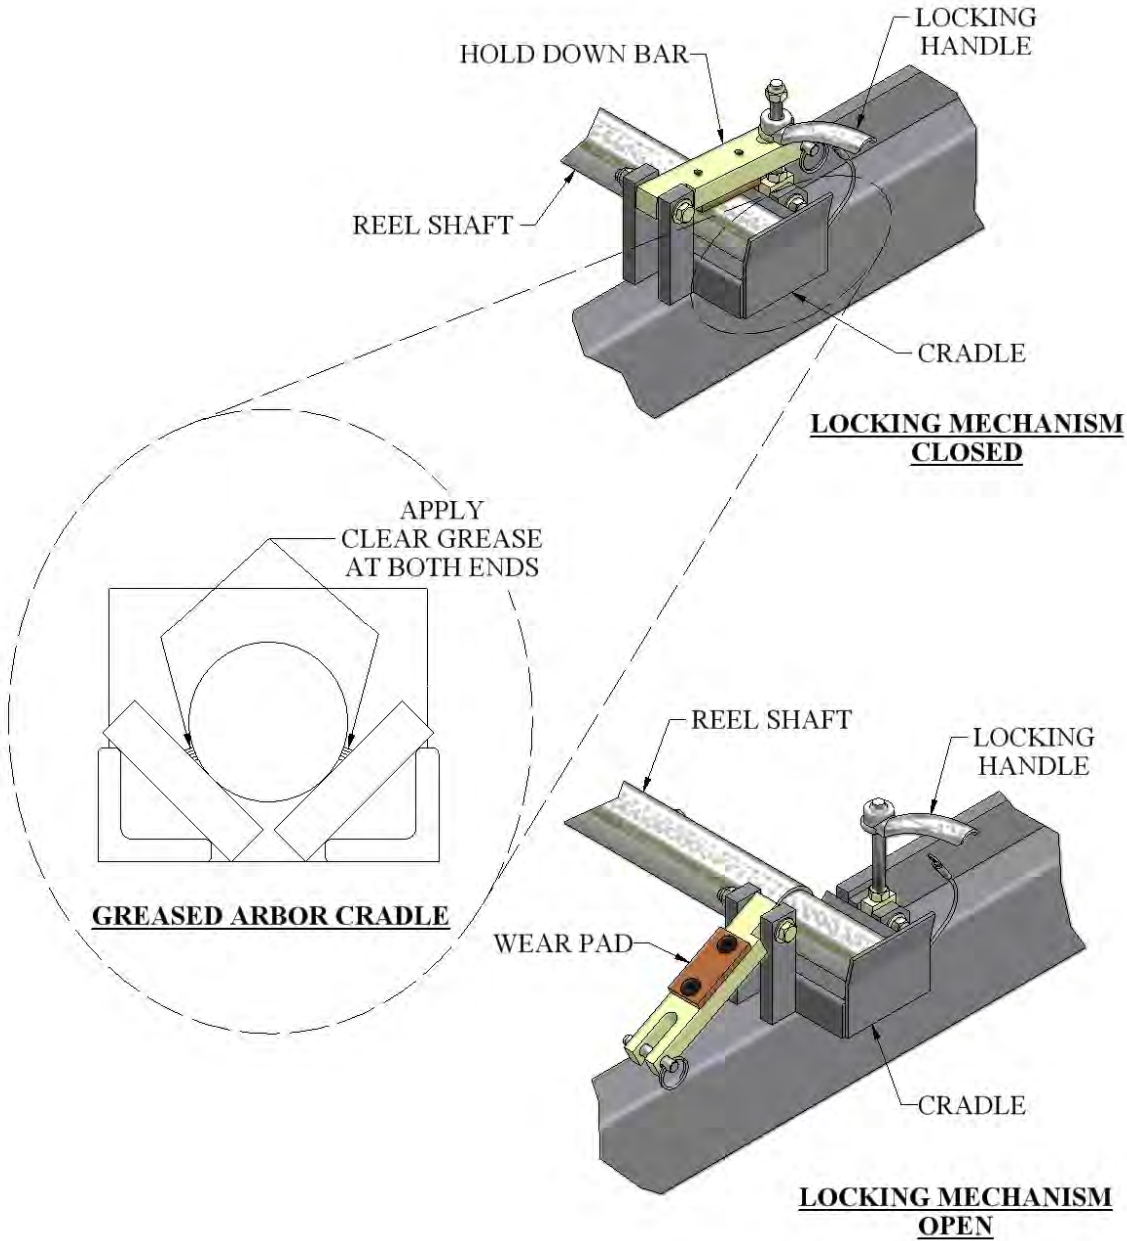

Figure 6: Expandable Reel Assembly
1. The reel shafts must rest in the cradles on the reel rack. Keep the cradles lubricated with synthetic lube to minimize wear. (Figure 6)
2. Use the Hold Down Bars on each cradle to secure the coil and reel to the reel stand during both operation and transit of the machine. The Hold Down Bracket should be used to keep the coil from uncoiling too fast during the fabrication of panels. Apply just enough drag to keep coil tensioned. (Figure 6)
1. Prepare the reel stand by making sure the Hold Down Bars are in the unlocked and open Position (Figure 6).
3. Rotate the Hold Down Bars (Figure 6) to the closed position and thread the handle onto the hold down bolt. If you are going to run panel from this coil, tighten the left and right handle just snug. Final adjustment of tension should be made while running a panel to keep reel from unwinding material too fast. As the coil becomes smaller, re-adjustment will need to be made.